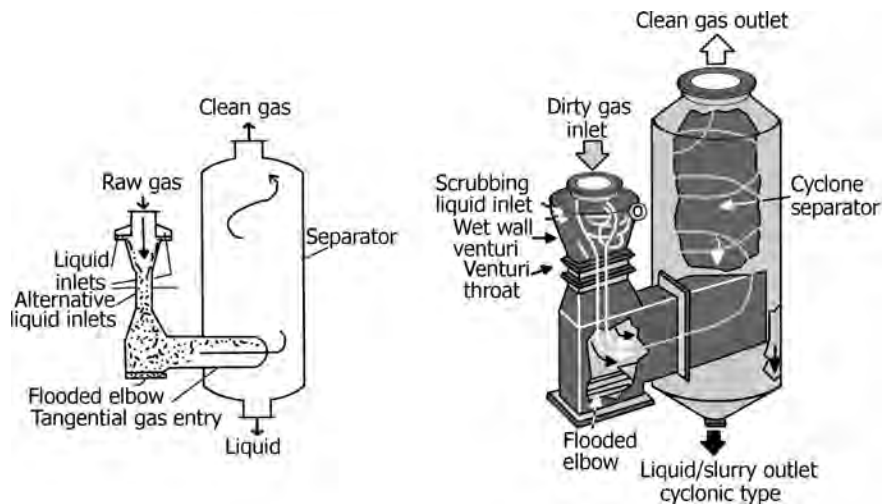

FIGURE 16.2 Details of Venturi scrubbers.
- Figure 16.2 illustrates essential details of a Venturi scrubbers.